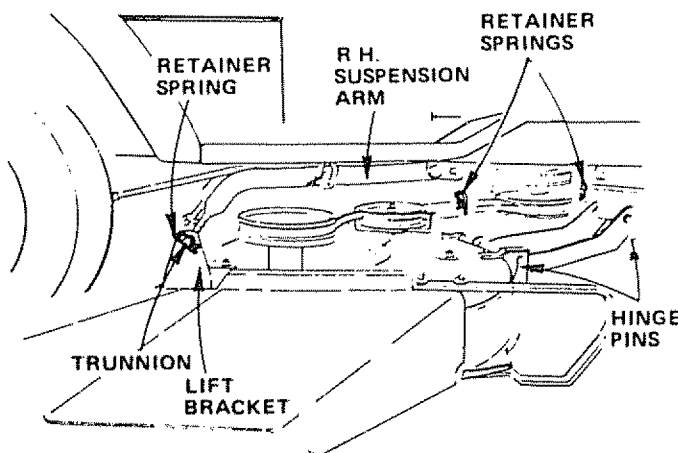

FIGURE 25
- Pull retainer springs out of rear suspension trunnions. Remove rear suspensions trunnions from lift brackets (Fig. 25).
- Pull retainer spring out of rear hinge pin. Remove rear hinge pin. (Fig. 25)
- Pull retainer spring out of front hinge pin. Remove front hinge pin (Fig.25).
NOTE: IF AN ATTACHMENT OTHER THAN THE MOWER DECK IS TO BE MOUNTED ON THE TRACTOR, THE L.H. AND R.H. SUSPENSION ARMS (FIG. 25) SHOULD BE REMOVED FROM TRACTOR.